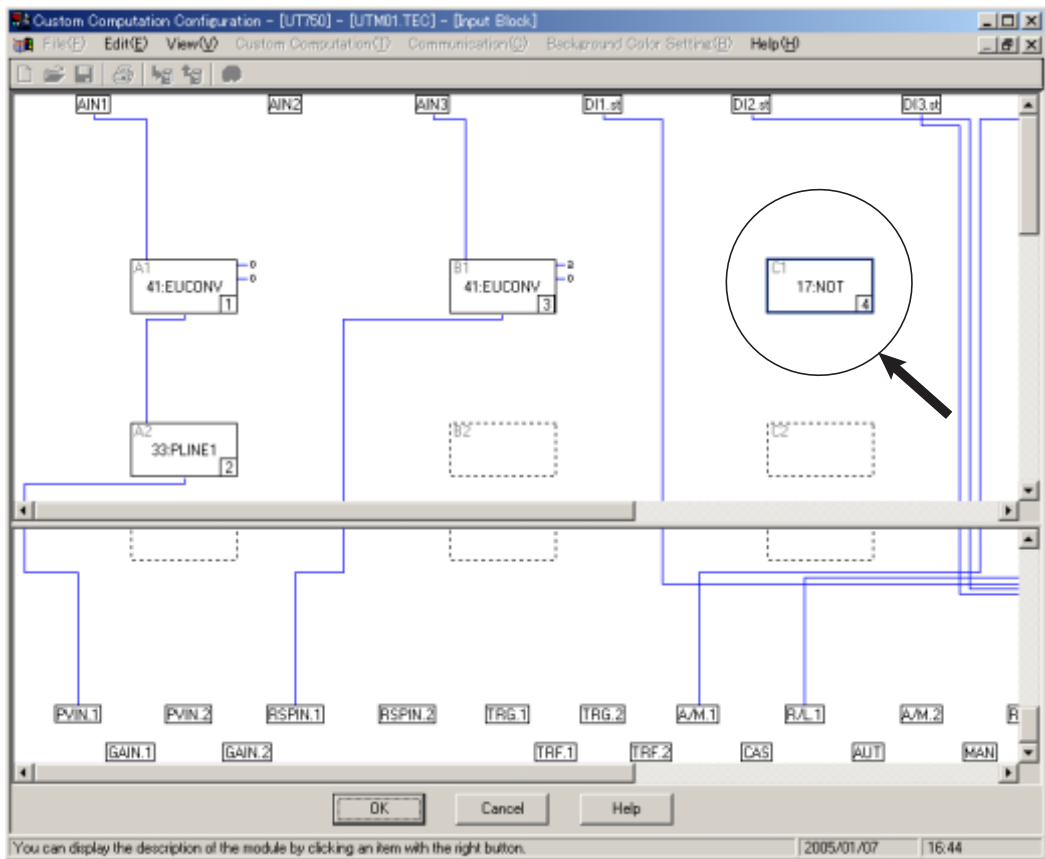

Figure 4.2.6 Example where a NOT Module Is Registered as the Fourth-Run Module
Figure 4.2.6 shows an example where the <17: NOT> option in the <Logical Operation> index is registered.
- (1) In the [Input Block] dialog box, click the module whose inputs and parameters you want to configure. In the example shown in Figure 4.2.6, click the NOT module.